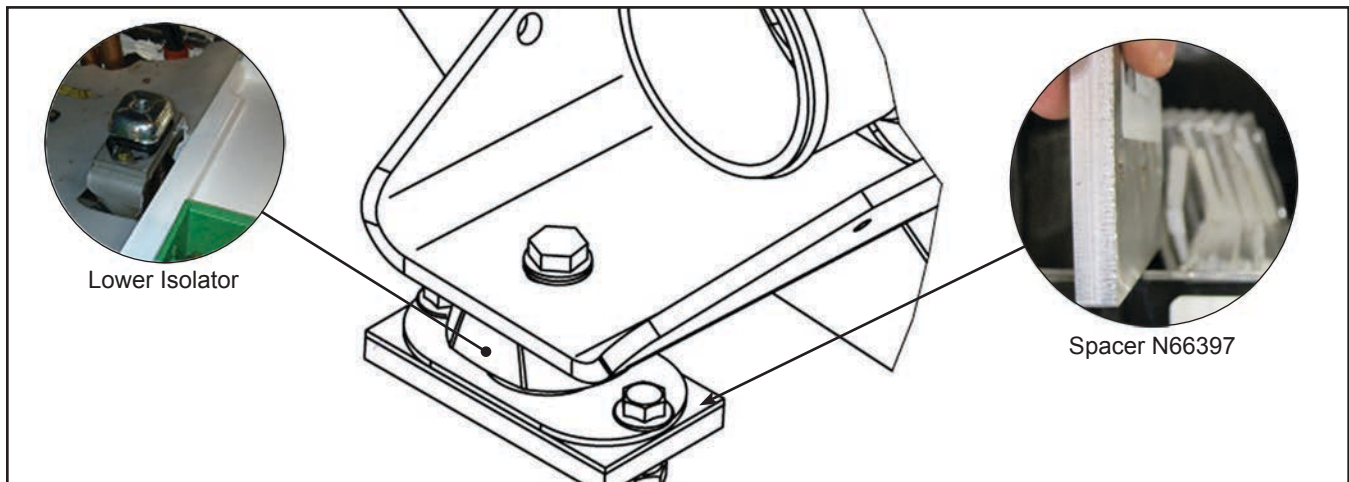

Figure 7 - Installation of Spacers N66397 on the Lower Supports
- 1.19. Install a 3/8" spacer, N66397 and new isolator N43343 using N16891 bolts and retained hardware on both rear supports of the structure. Apply Loctite 242 thread locker or the equivalent on the bolts. Do not tighten the bolts. See Figure 7.